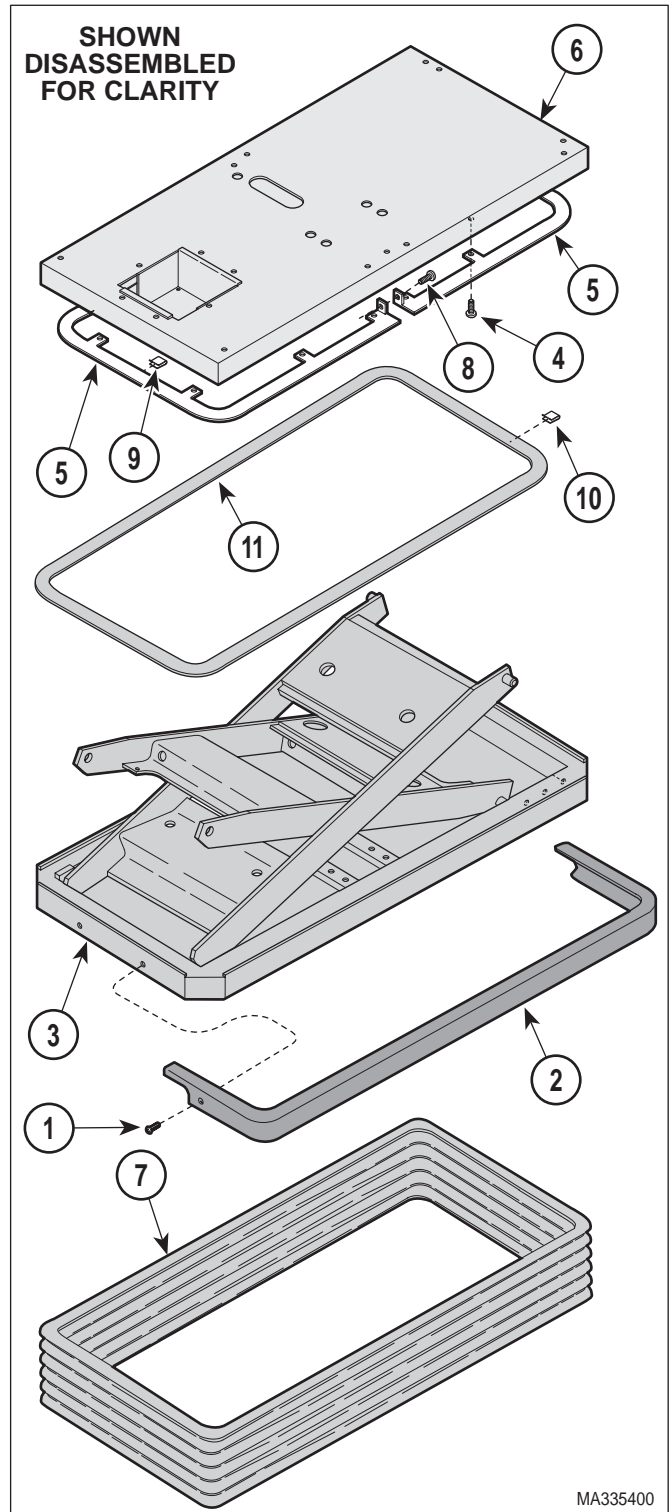

Figure 4-1. Bellows Assembly Removal / Installation
- (2) Unplug table power cord from wall outlet.
- (3) Remove four screws (1, Figure 4-1) and two bellows retainer trim (2) from lower base weldment (3).
- (4) Remove ten screws (4) securing retaining straps (5) to upper base (6). Lower retaining straps and bellows (7).
- (5) Remove two screws (8) and separate two top retaining straps (5) from each other.
- (6) Slide six clips (9) off of the top retaining straps (5) and remove retaining straps from table.